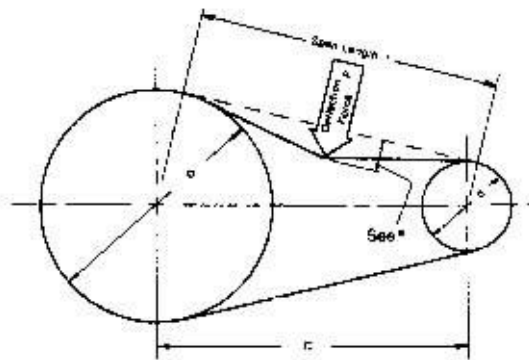

Figure 2
Step 1: Install belts per Step 1 of General Method above. Measure span length (t) in inches as shown in figure 2, or calculate using formula.
Step 2: From figure 2 the deflection height (h) is always $\frac{1}{64}$ " per inch of span length (t). For example, a 32" span length would require a deflection of $\frac{32}{64}$ " or $\frac{1}{2}$ ".
Step 3: Determine the minimum, maximum, and initial recommended pounds force using table 1 or calculate based on the required Static Strand Tension (T). Note: The initial recommended force is used only for installing new belts which have not seated themselves into the sheave grooves and where initial belt stretch has not taken place.
Step 4: Using a spring scale, apply a perpendicular force to any ONE of the belts at the midpoint of the span as shown in figure 2. Compare this deflection force with the values found in Step 3.